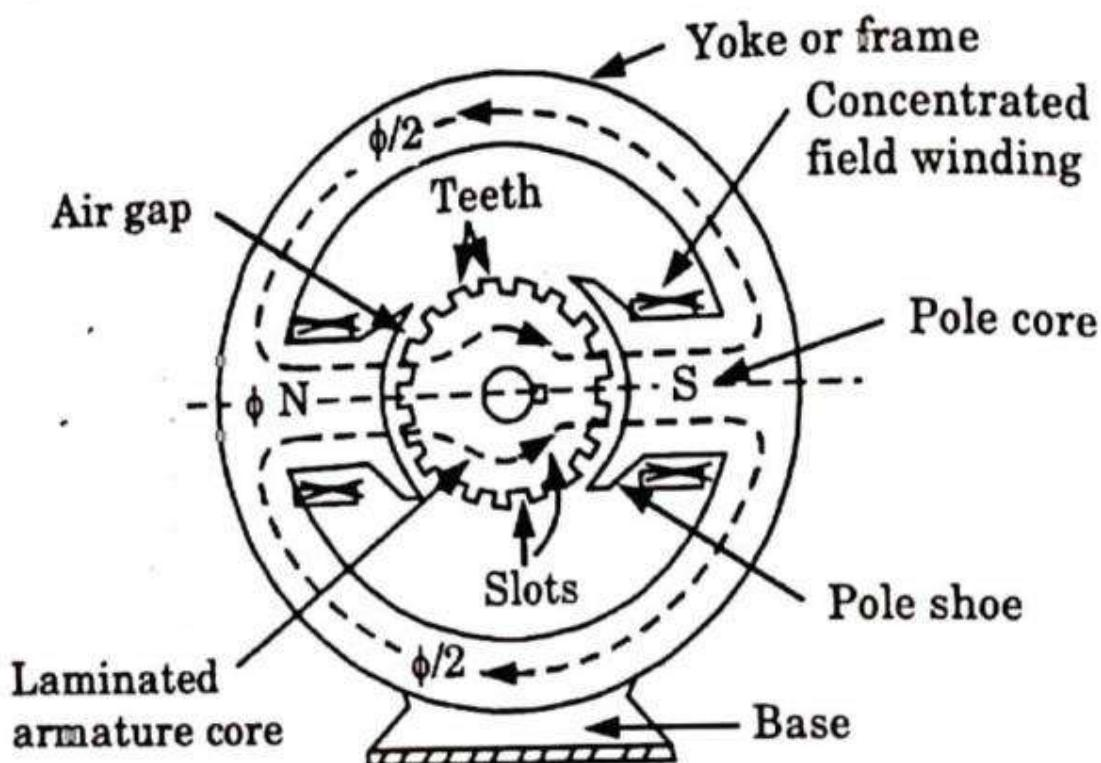

Fig. 4.3.1. Constructional features of a 2-pole DC machine.
5. The brush-rigging as shown in Fig. 4.3.1 consists of a group of brush holders and their attachment to the yoke or end cover.